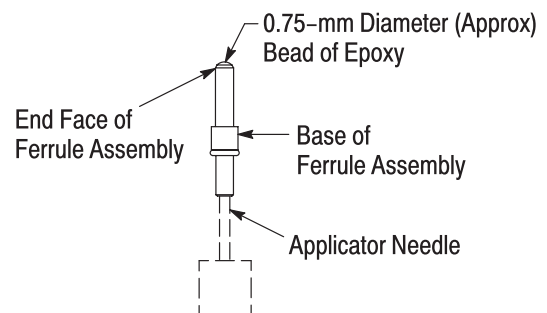

Figure 6
12. Hold the ferrule assembly vertically, and insert the needle tip into the base of the ferrule assembly until it is against the back (end closest to the base) of the ferrule assembly. Refer to Figure 6.